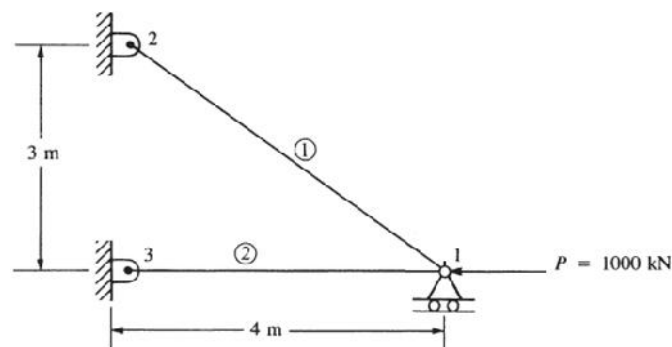

Figure 1
14. Calculate the nodal displacements and element stresses of the truss shown in fig 1. The truss members are subjected to a temperature rise of 50°C . [$E = 200 \text{ GPa}$, $A = 500 \text{ mm}^2$ for all members and $\alpha = 10 \times 10^{-6} \text{ per } ^\circ\text{C}$].